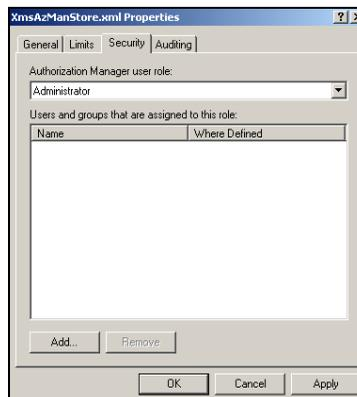

Figure 19-35. Select the Security tab on the policy store's Properties dialog box
3. Select the **SECURITY** tab on the policy store's **PROPERTIES** dialog box (figure 19-35). If it is not already displayed, set the Authorization Manager user role field to Administrator.